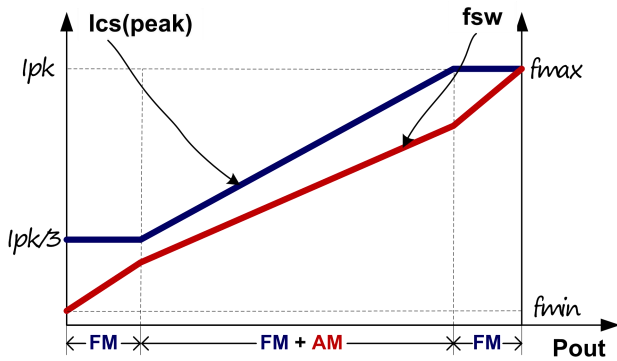

Fig.4
To meet the tight requirement of averaged system efficiency and no load power consumption, a hybrid of frequency modulation (FM) and amplitude modulation (AM) is adopted in DP3773B which is shown in the Fig 4.